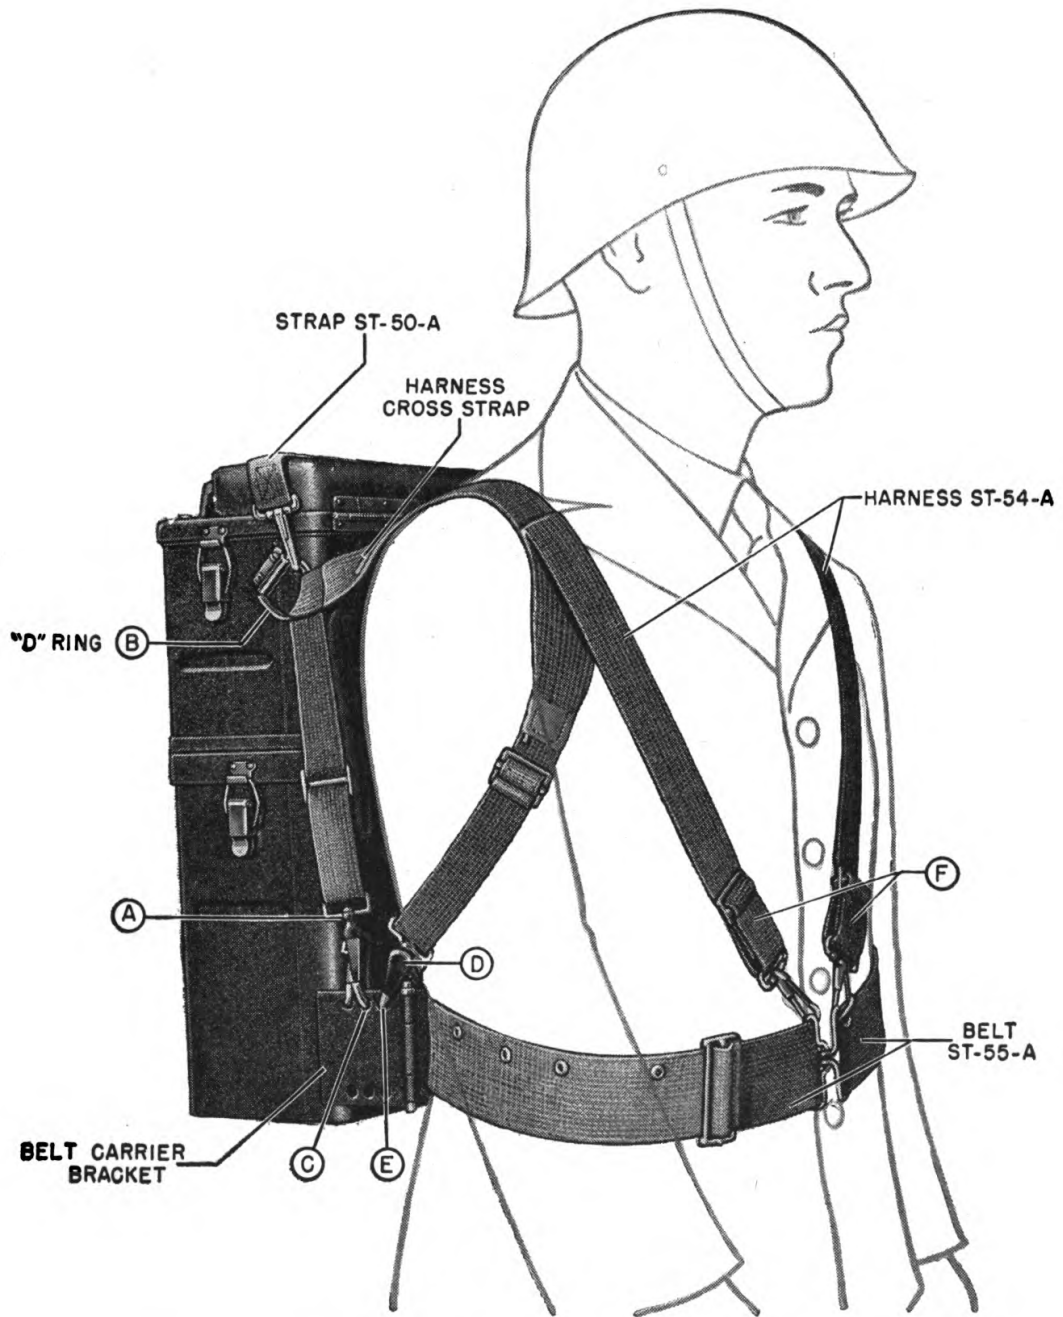

Figure 15. Harness ST-54-A and Belt ST-55-A, Installation Detail.
(3) *Harness ST-54-A.* Slip the snap hooks (A) and straps (one each side) through the "D" rings (B) and clip to the center hole (C) of the belt carrier bracket. (See Figure 15.) Attach the other ends (D) of these same straps to the holes (E) of the belt carrier bracket farthest away from the set. Make sure that the straps are not twisted. The other two straps (F) with snap hooks are to be left free until the set is placed on operator's back. Slide buckles are provided on all the straps to provide length adjustments, as required, after set is placed on operator's back.
(2) Hook the two ends of Belt ST-55-A together by means of the buckle. It will be necessary at this point to adjust the strap lengths by means of the strap slide buckles, to assure correct fit. The cross strap just behind the shoulders should be adjusted so that the shoulder straps will not slip off the shoulders.
(3) Hook the straps that hang from the front of the shoulder straps to Belt ST-55-A or to the service belt. The snap hooks can be hooked, either to the eye-letted-holes or to the buckle. (See Figure 15.) Adjust the slide buckles so that set has no tendency to slip back away from the shoulders. In general, the set will carry most comfortably, if strap adjustments are made so that the top of the set is slightly above shoulder level and fits snugly against the shoulders. It will be necessary for each individual to experiment with strap adjustments to achieve the most comfortable carrying position.
(4) Attach Bag BG-150-A to the service belt.